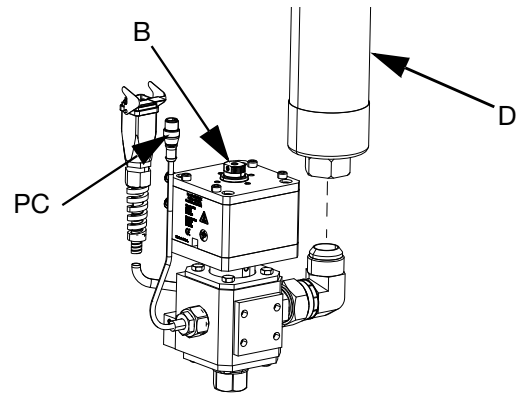

FIG. 21
- 7. If two hoses are used, connect Supply Hose 2 (D) to the inlet fitting on the Dispense Valve (B). If only one hose is used, connect Supply Hose 1 (C) to the inlet fitting on the Dispense Valve (B). See FIG. 21.